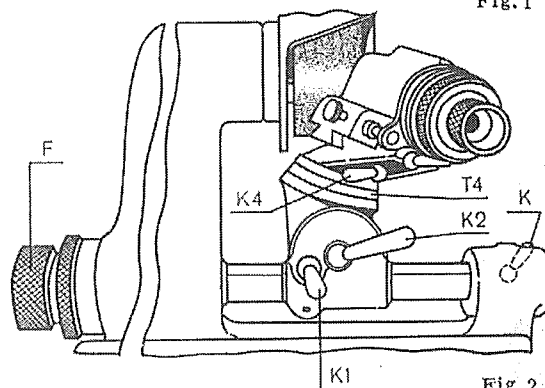

Fig. 2
2. Release clamping lever K2; using scale T2, set cutter at desired back rake angle; tighten clamping lever K2, see Fig. 2.
4. While continuously rotating the collet bearing through 180° (back and forth between the stops), advance the cutter towards the grinding wheel by means of fine adjustment screw F. This will produce the desired back rake angle in a positively controlled operation (see Fig. 2).